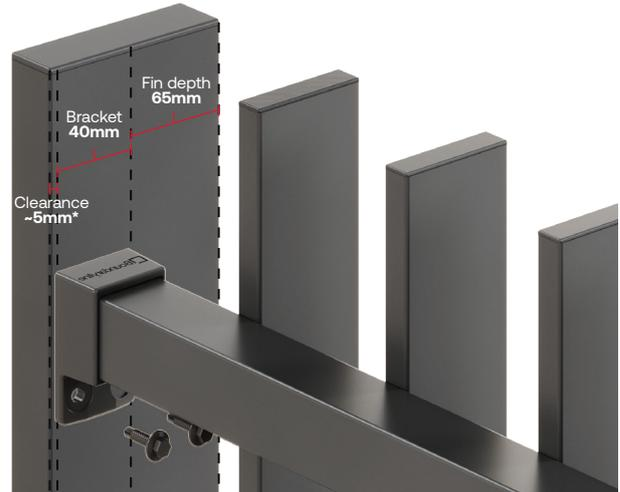

Fig. 8
2. Measure and mark the positions of the brackets on the posts. For the front of the fins to remain flush with the posts, the brackets will need to be installed offset from the centre of the posts. The bracket will sit almost flush with the back of the post. **Fig. 8**